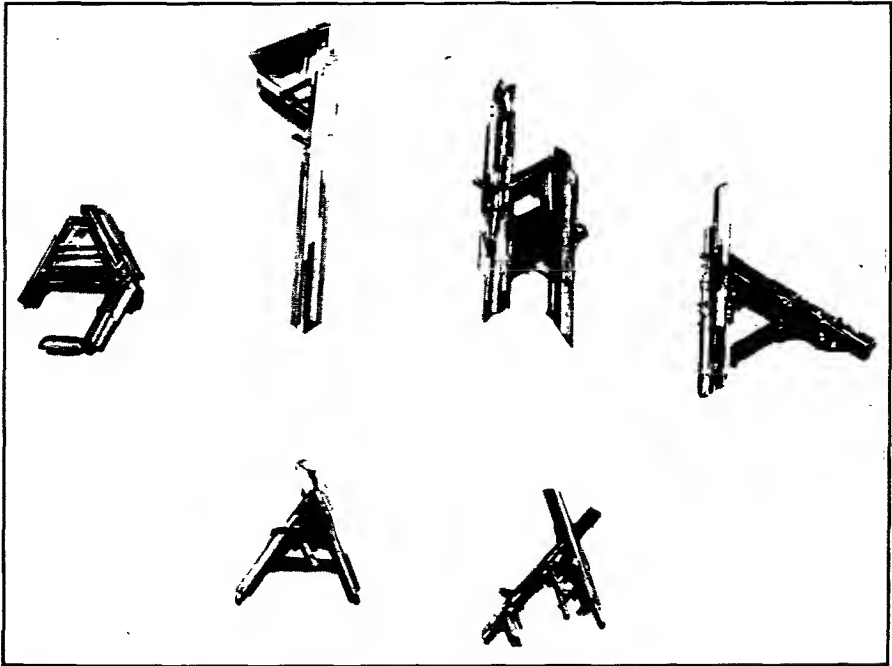

Figure 213. Rutile, Prismatic Crystal Showing Repeated Twinning, Alexander County, North Carolina
*Form:* *Crystals* are tetragonal, commonly prismatic and generally complex through twinning, which is often repeated as shown in figure 213.